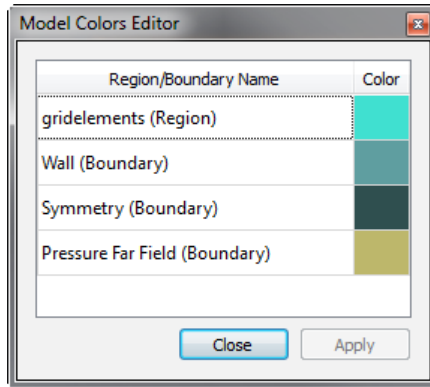

Figure 11.68: Models color editor
- Click on the *Model Colors Editor* button  (see Figure 11.68).